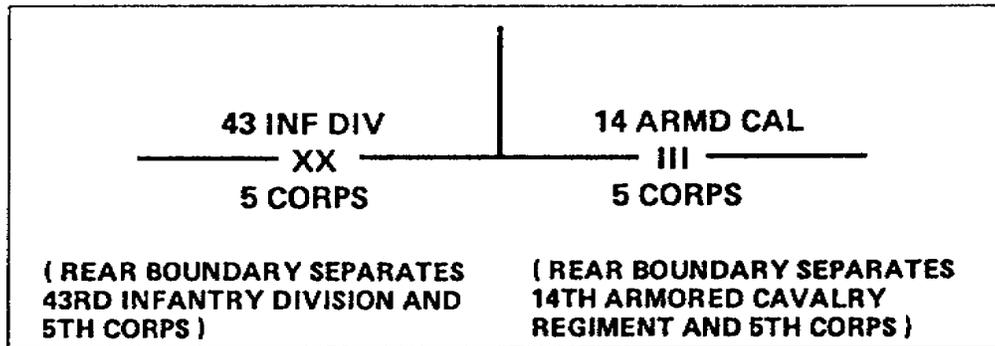

Figure 1-21. Rear boundaries
b. Rear Boundaries. When indicating rear boundaries, the size indicator along the boundary corresponds to the smaller unit or the commanded unit, and not the commanding unit. Figure 1-21 shows examples of rear boundaries.